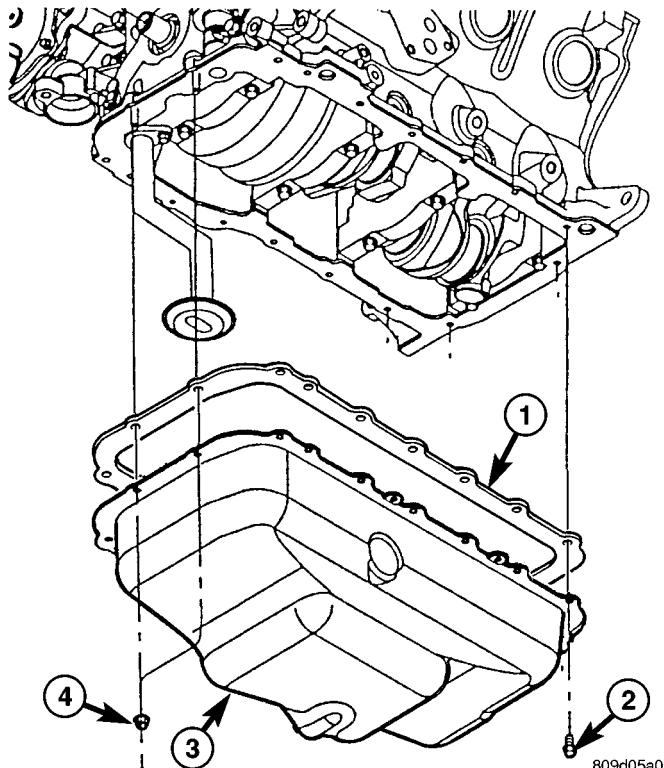

Fig. 102 OIL PAN
- (6) Remove oil pan fasteners (Fig. 102).
- (7) Remove the oil pan and gasket (Fig. 102).
(2) Position a new pan gasket on oil pan (Fig. 102).
(3) Install oil pan and tighten fasteners to 12 N·m (105 in. lbs.) (Fig. 102).